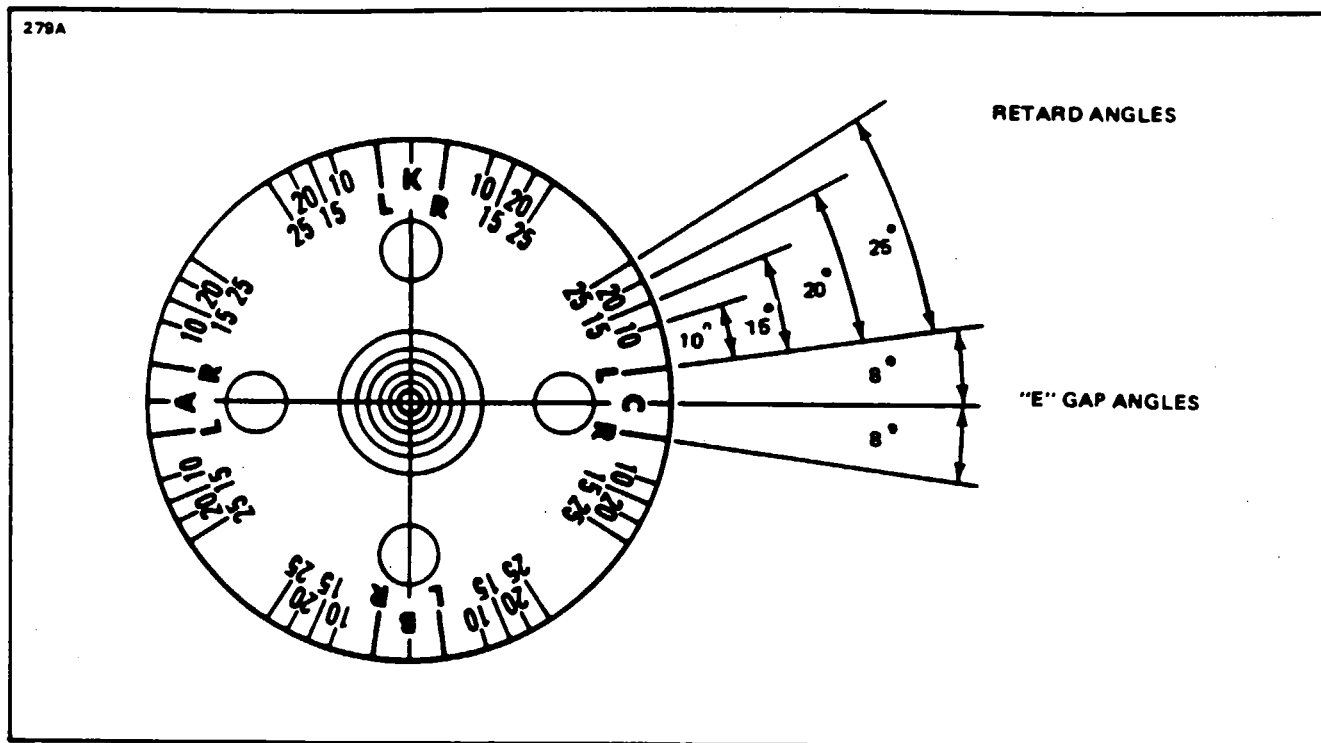
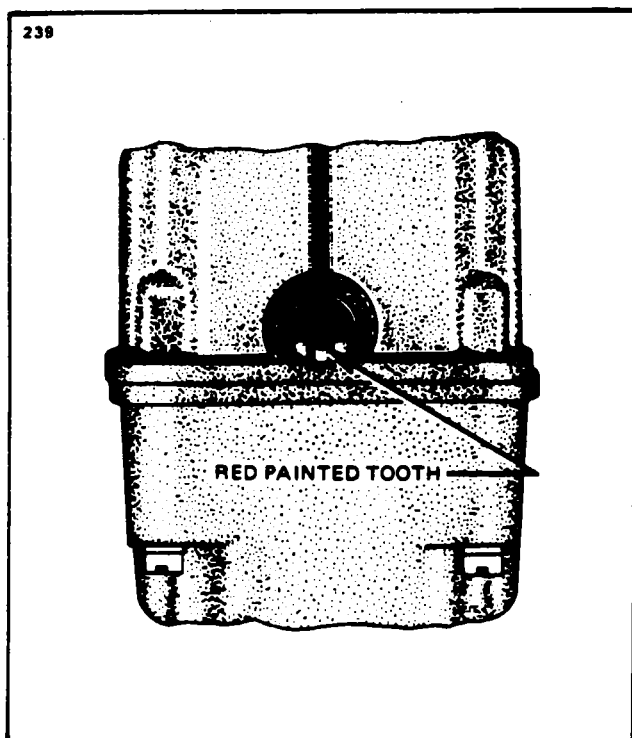
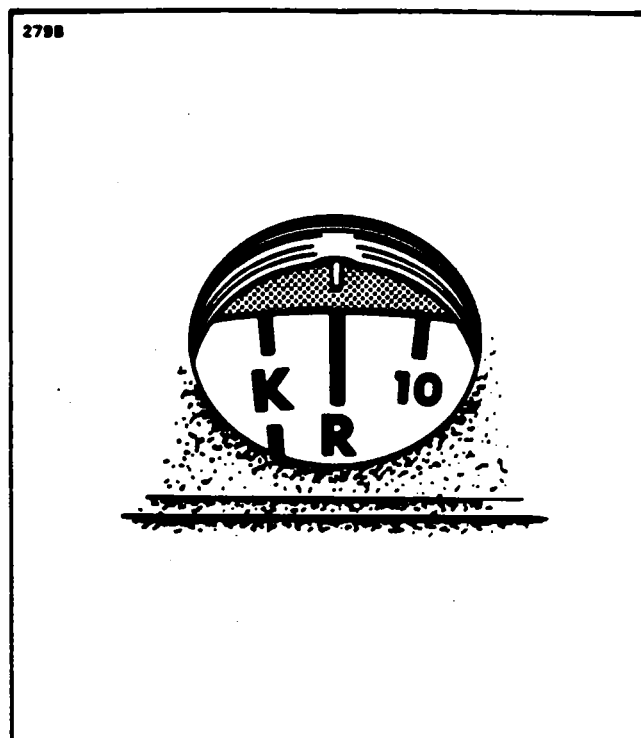

Figure 74-5. Timing Marks on Magneto Rotor
Figure 74-6. Painted Tooth Centered in Timing Window
Figure 74-7. Timing Mark on Rotor Aligned with Pointer
4. The magneto incorporates a built-in pointer and a degree wheel with sufficient reference to assist the mechanic in magneto timing procedures. Printed upon the rotating magnet are marks to indicate magneto neutral and magneto "E" gap (8°). (Refer to Figure 74-5.) Also included are retard angle references of 10, 15, 20 and 25 degrees. These marks are set up for either clockwise (R) or counterclockwise (L) rotation of the magneto as viewed from the magneto drive end. The timing tooth of each large distributor gear is marked with red paint. (Refer to Figure 74-6.)
6. Remove the plug from the distributor inspection windows at either end of the magneto housing. (Refer to Figure 74-6.) Also remove the plug from the "E" gap inspection window on the data plate side of the magneto housing. (Refer to Figure 74-7.)